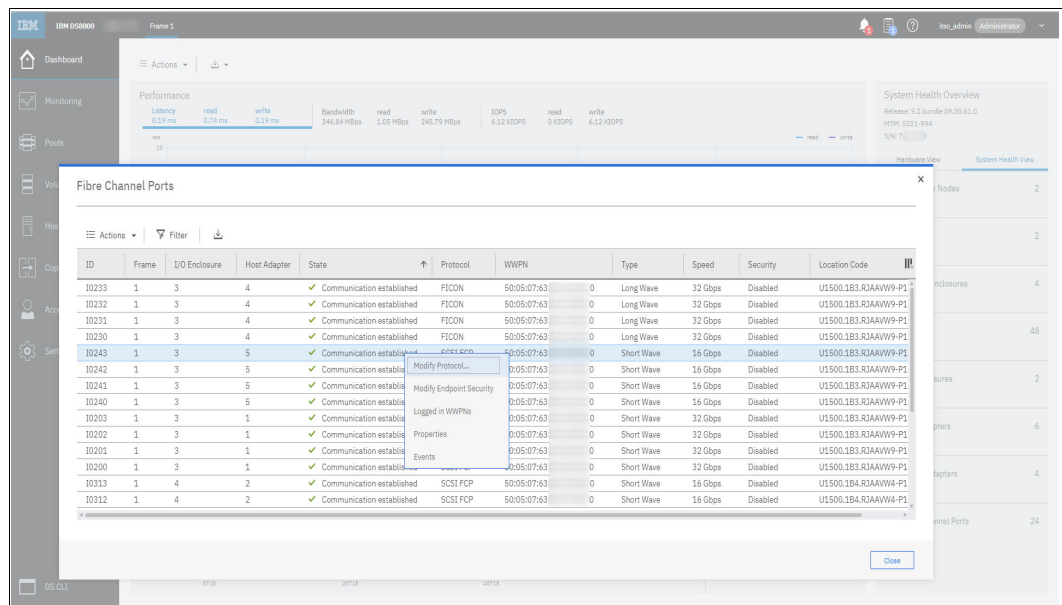

Figure 9-10 Modifying the FC port protocol from the System Health overview
- ▶ You can also configure the port topology from the System view or from the System Health overview, as shown in Figure 9-10.